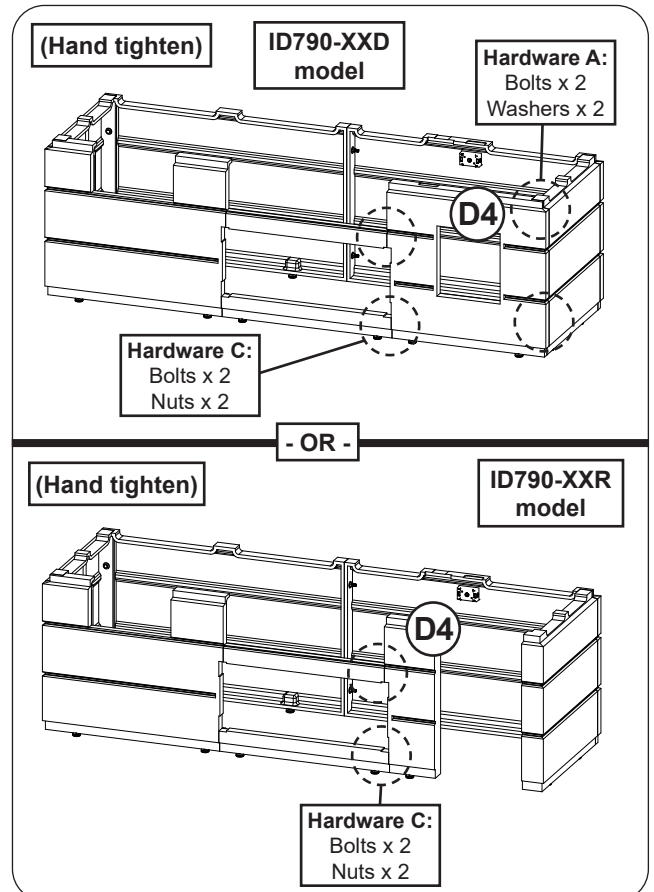

Fig. 9-3 Assemble front wall (right piece)
4. **ID790-XXD models:** Position the right front wall piece (D4) and repeat the hardware installation process to fasten it to the right side wall (hardware kit A), and then to the beams (hardware kit C). Hand tighten only. See Fig. 9-3.
ID790-XXR models: Position the right front wall piece (D4) and repeat the hardware installation process (hardware kit C). Hand tighten only. See Fig. 9-3.